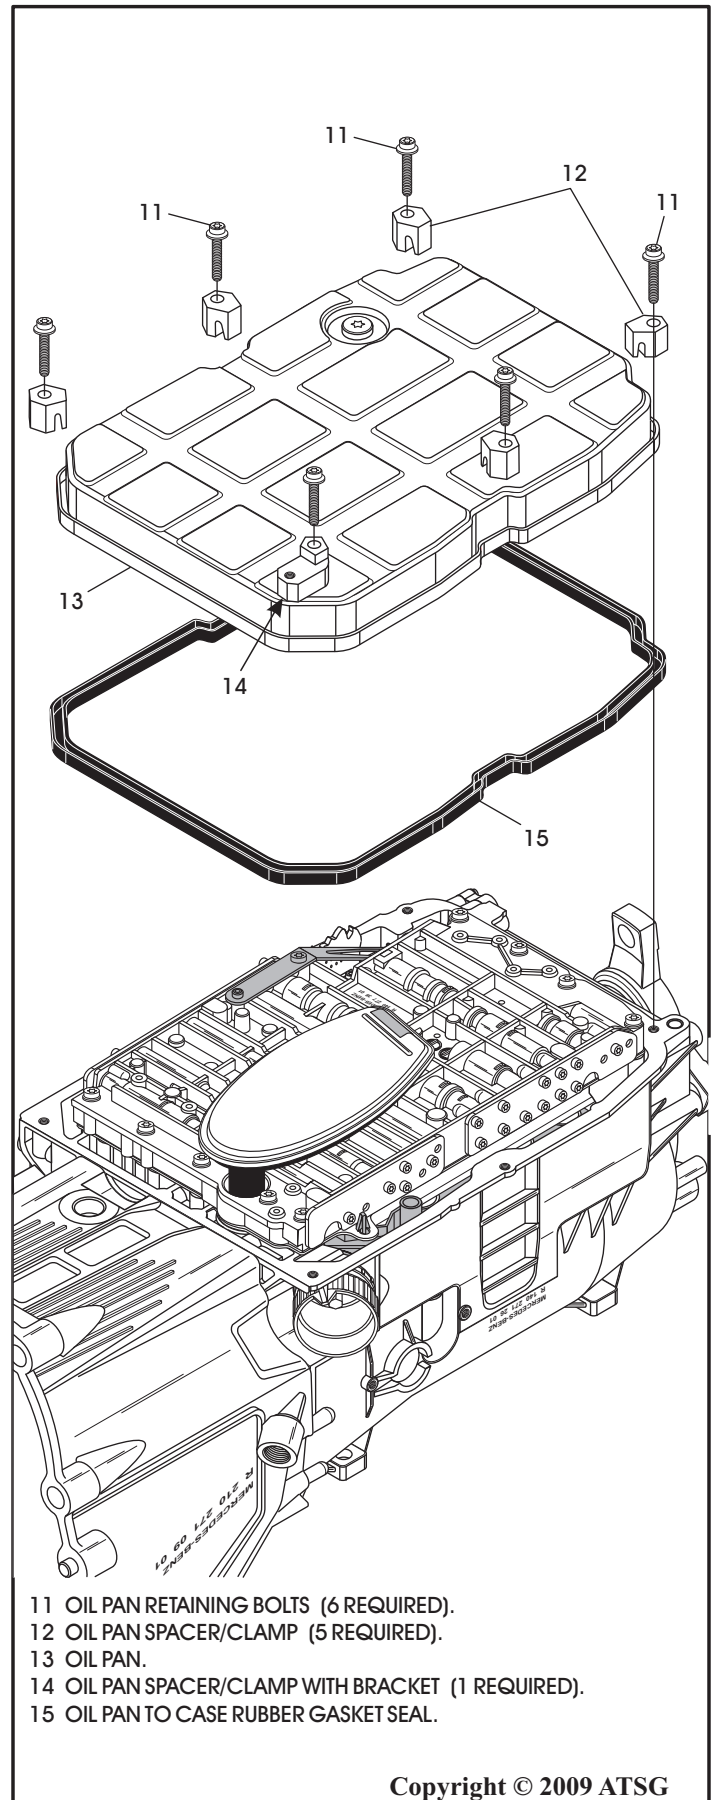

Figure 45
15. Rotate transmission so that the bottom pan is facing up as shown in Figure 45.
16. Remove the six oil pan bolts and the spacers, as shown in Figure 45.
17. Remove the oil pan, remove and discard oil pan rubber gasket, as shown in Figure 45.